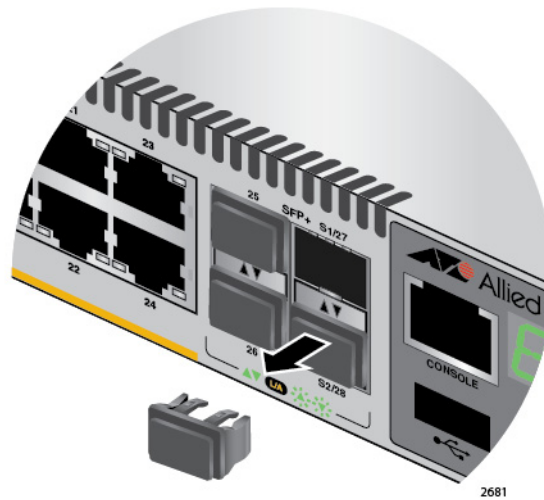

Figure 49. Removing the Dust Plug from the S1 Slot
1. Remove the dust plug from the S1 slot on the top switch of the stack, as shown in Figure 49.